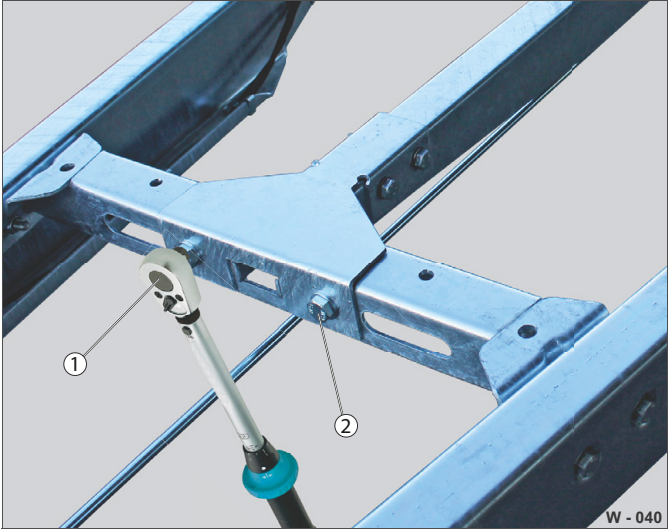

Fig. 5 Tighten screw connections
- Use a calibrated torque wrench (Fig. 5 /1) to tighten screw connections (Fig. 5 /2).